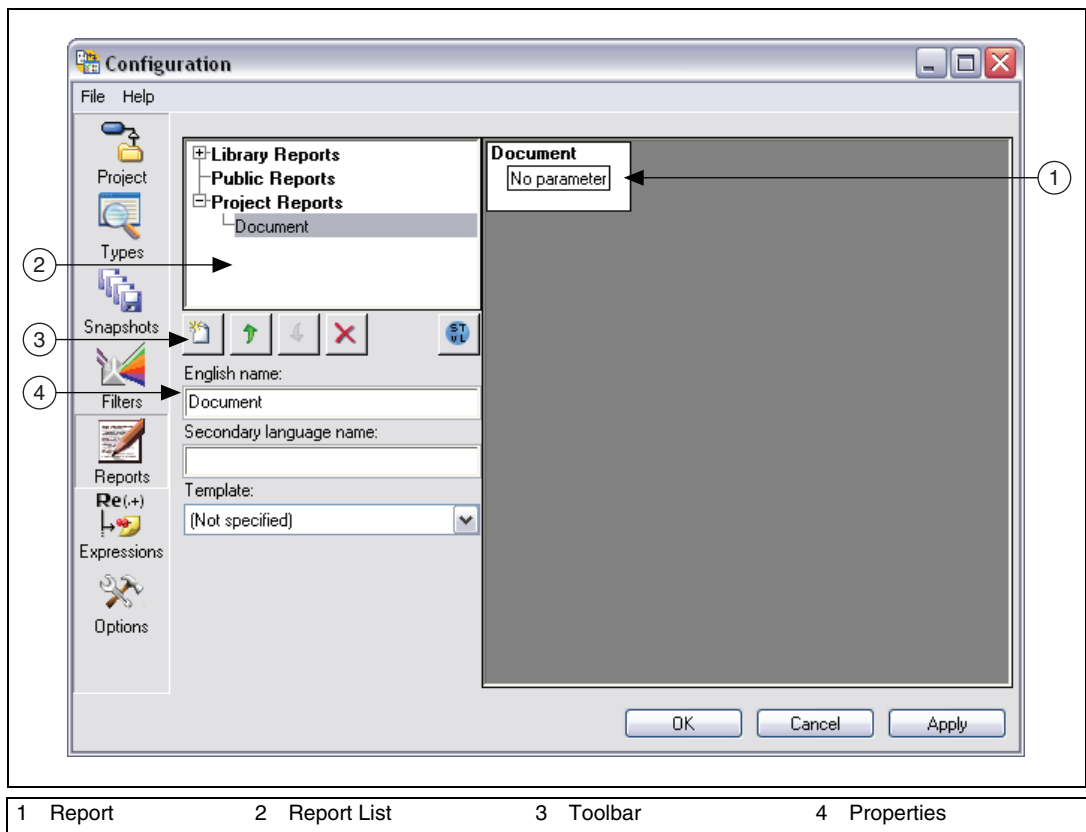

Figure 4-2. Reports Pane of Configuration Dialog Box
3. Click the **New report** button, shown at left, to add a new report under Project Reports, as shown in Figure 4-2.